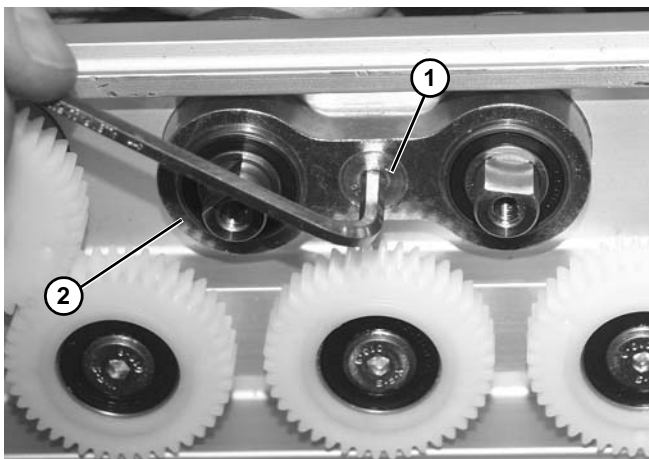

Figure 19
8. Remove screw (Figure 19, item 1) from center of bearing assembly (Figure 19, item 2).